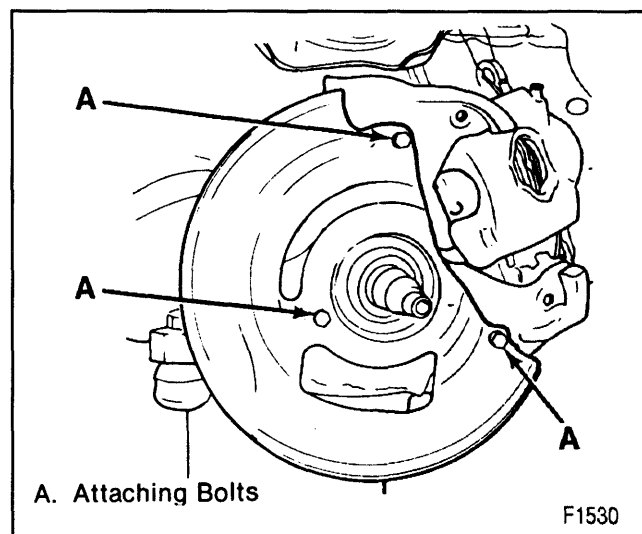

Figure 21—Splash Shield Attachment
4. Hub/rotor assembly (17). Refer to "Hub, Bearing and Seal Replacement."
5. Three bolts attaching the splash shield to the knuckle (23) (figure 21).
6. Knuckle seal (20) if the knuckle (23) is to be replaced.
- Be careful not to damage the knuckle seal (20).
4. Bolts (A) to the splash shield (25) (figure 21).